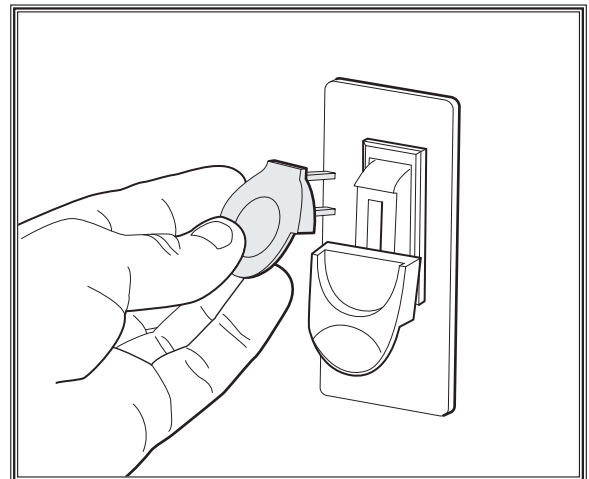

Figure 19. Removing switch key from paddle switch.
7. Remove the switch disabling key, as shown in **Figure 19**).